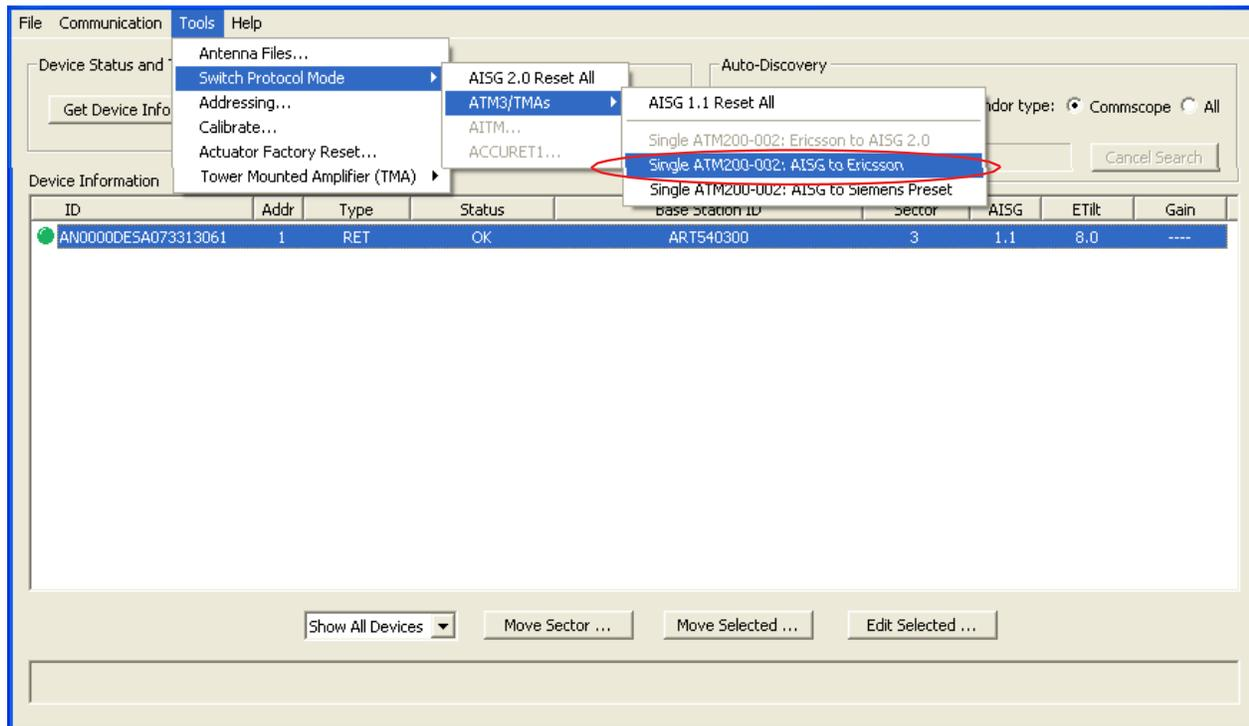

Figure 5-4. Switching To Ericsson Protocol.
2. To switch a single ATM200-002 to Ericsson proprietary protocol, select **Tools**→**Switch Protocol Mode** →**ATM3** →**Single ATM200-002: AISG to Ericsson**. See Figure 5-4.